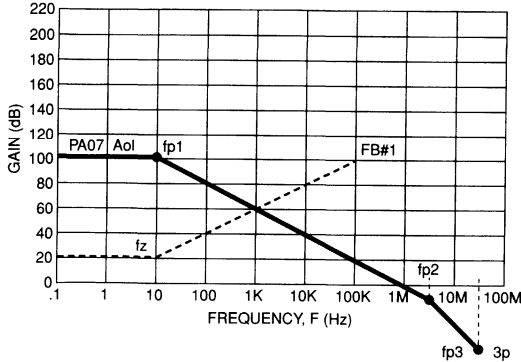
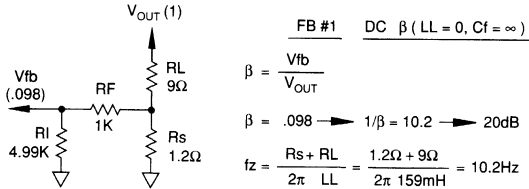

FIGURE 17. Aol AND FB #1 – MAGNITUDE PLOT FOR STABILITY
FIGURE 18. FEEDBACK NO.1 (FB #1)
STEP 1: On Figure 17 plot the op amp's Aol curve as given by the manufacturer.
STEP 2: On Figure 17 plot FB#1. Refer to Figure 18 for calculation of FB#1. At DC, LL is a short and so β is a voltage divider through resistors as shown in Figure 18. As we go to higher frequencies, the reactance of LL will increase ($X_L = 2\pi fL$). This will increase the net load impedance which will cause β to decrease and $1/\beta$ to increase as frequency increases. Since we are working with a single reactive element the increase of that gain will be 20 dB per decade. Figure 18 details the breakpoint fz where this increase begins. We see that at the intersection of FB#1 and the PA07 Aol curves the rate of closure is 40 dB per decade indicating marginal stability.